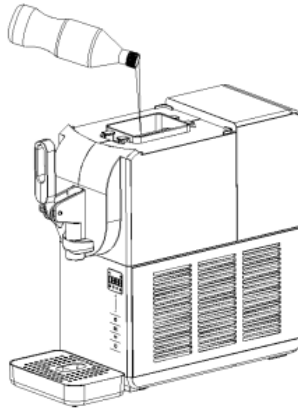
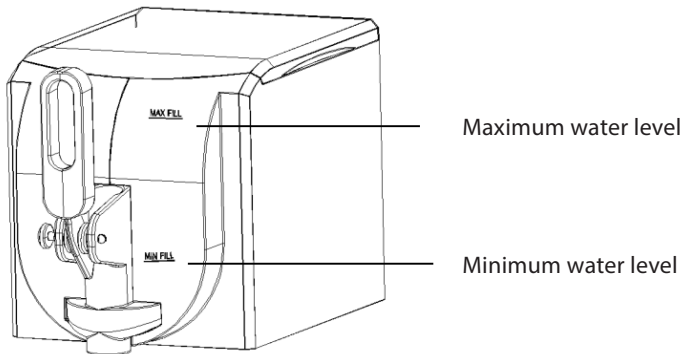

Fig. 1
Fig. 2
Before pouring ingredients into the loading barrel, check the barrel to ensure that it is properly attached. (For disassembly steps, refer to Chapter 6) Remove the lid of the barrel and slowly pour the ingredients into the barrel (as shown in Figure 1), paying attention to the liquid capacity between the lowest and highest water levels (as shown in Figure 2).
1. In order to avoid increased mixing load and overflow after ingredients expansion, the ingredients should not exceed the maximum capacity water level. For accurate temperature control and normal operation, the ingredients needs to be added to the minimum capacity water level (see Figure 2).